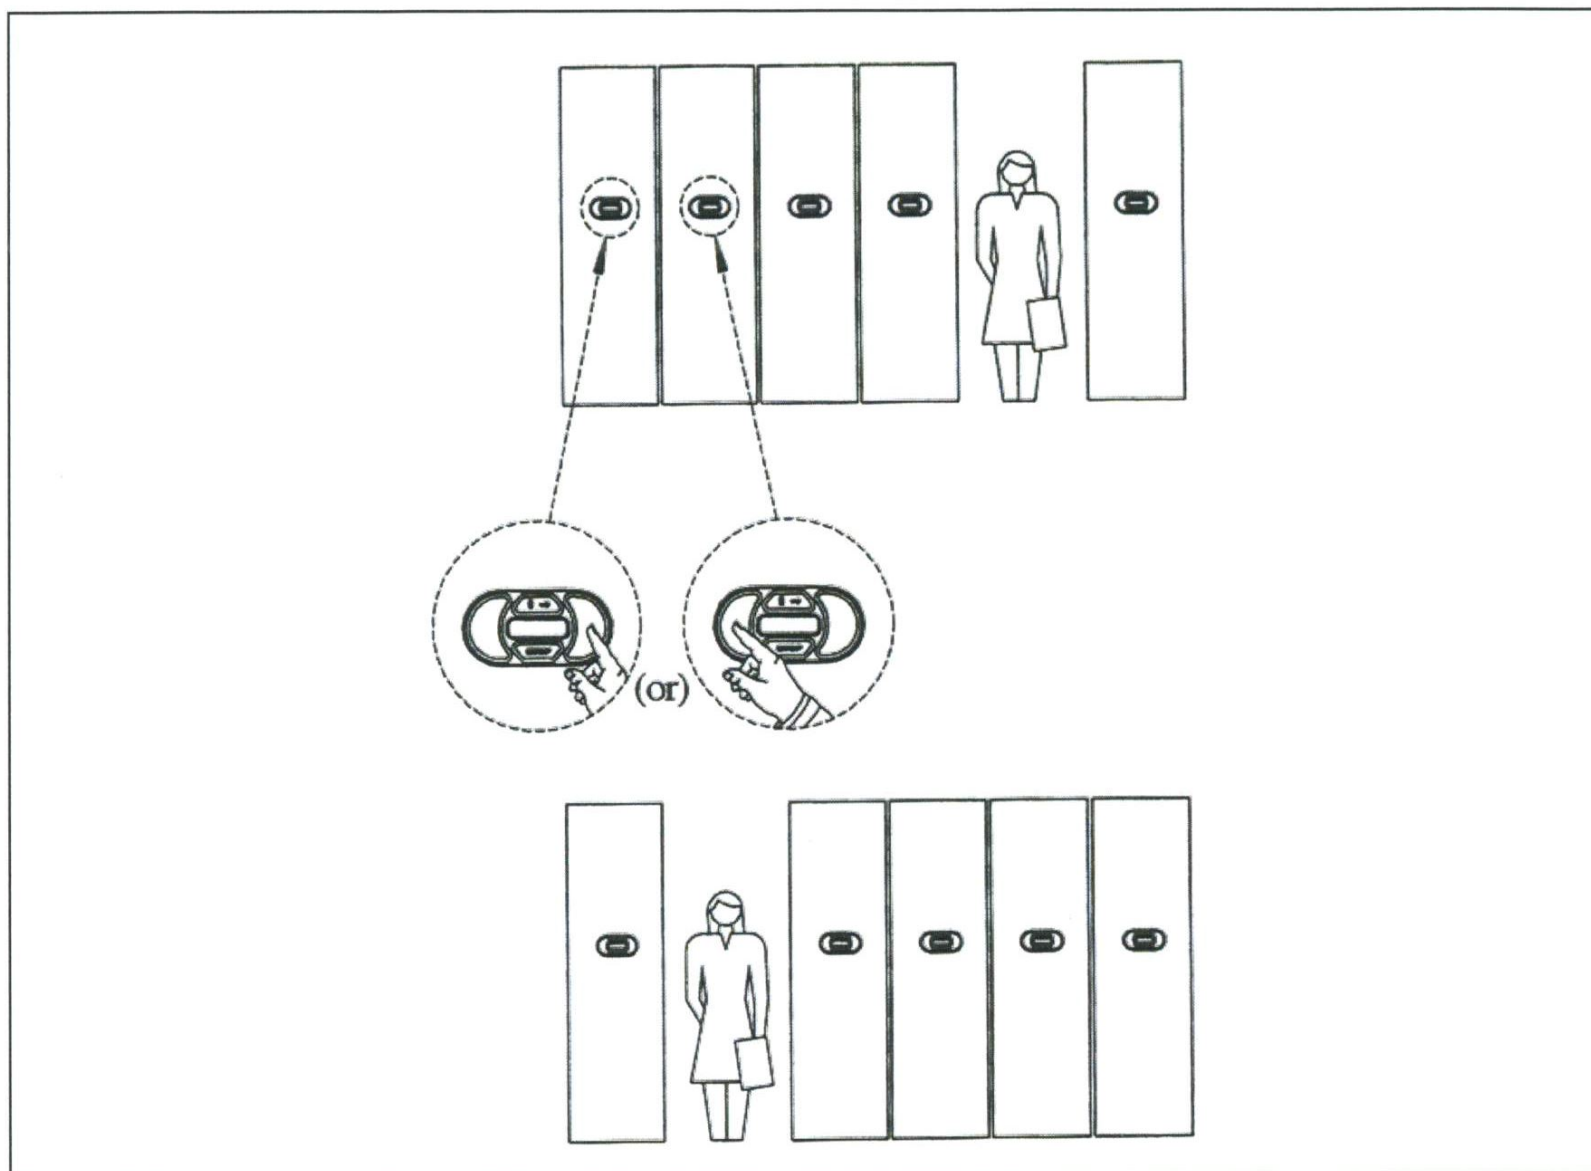

Figure 1 Open the desired aisle
- Push an OPEN button next to the aisle you want to open (see figure 1). The touch-pad can be touched on either side of the desired aisle location.
- Push an open button next to the aisle you want to open (see figure 1).